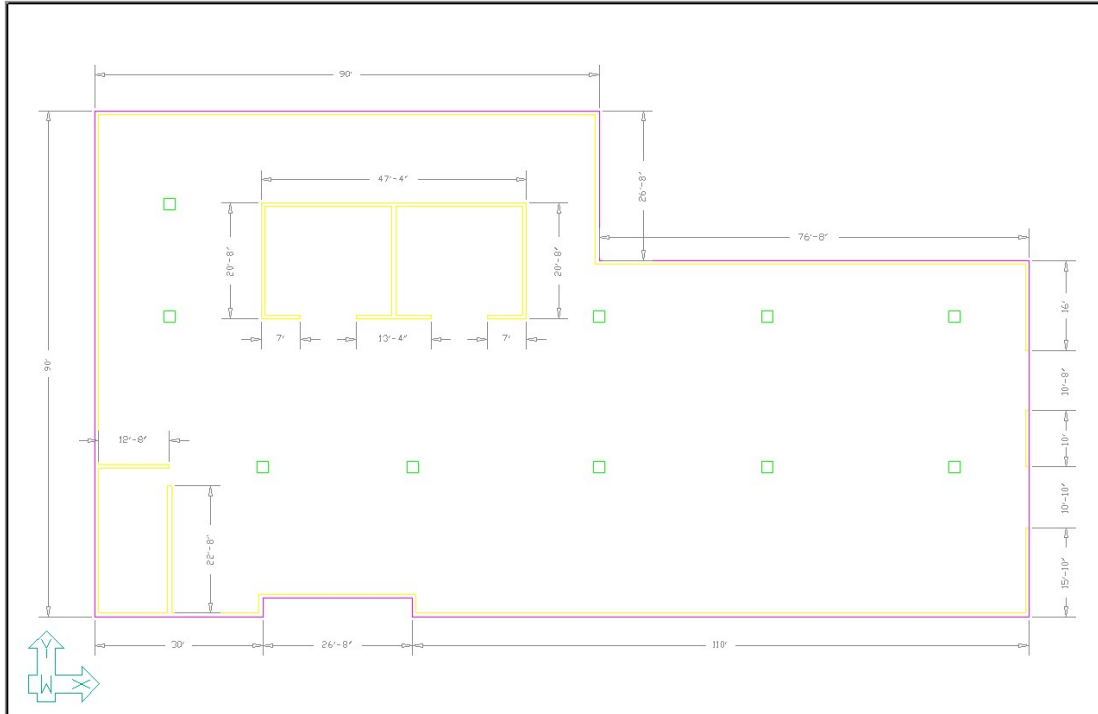

Figure 2.6-5 – DWG in ADAPT-Builder
- Click on the **Top View**  icon of the **Bottom Quick Access Toolbar** to bring the drawing into view (**Figure 2.6-5**).